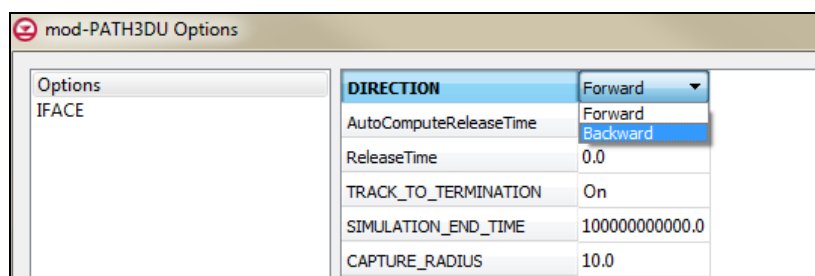

Figure 4 Selecting the direction
3. Select “Backward” from the *Direction* drop-down (Figure 4).